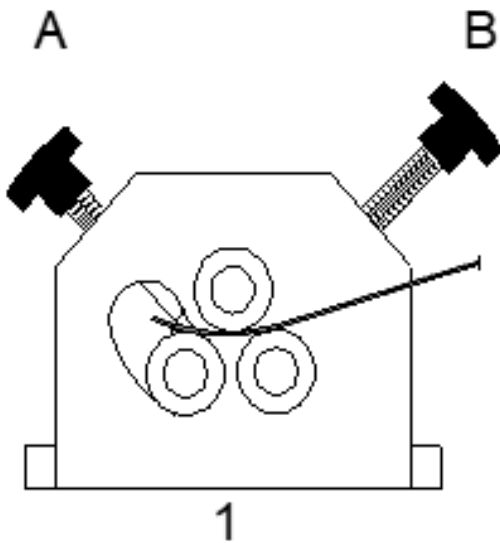
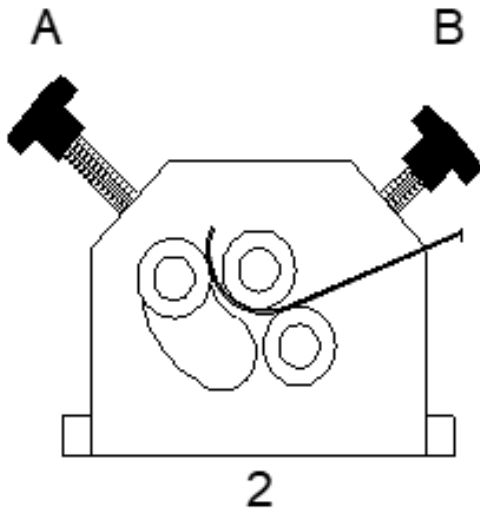
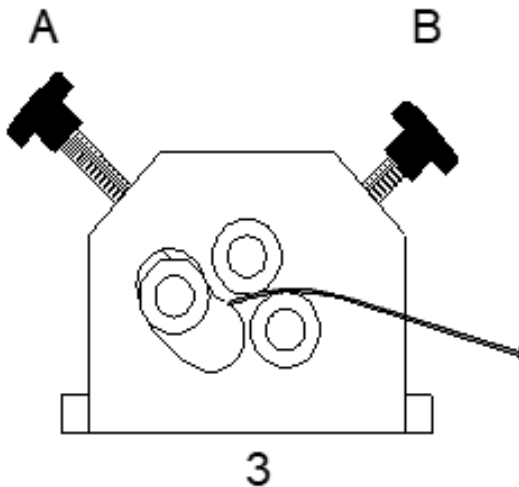

Figure 6-1
Figure 6-2
Figure 6-3
**Note:** Generally, it is recommended that the material be formed upward around the top roll for smaller, tighter radius rings as shown in figure 6-1 and figure 6-2. Bend larger more open radiuses downward as shown in figure 6-3.